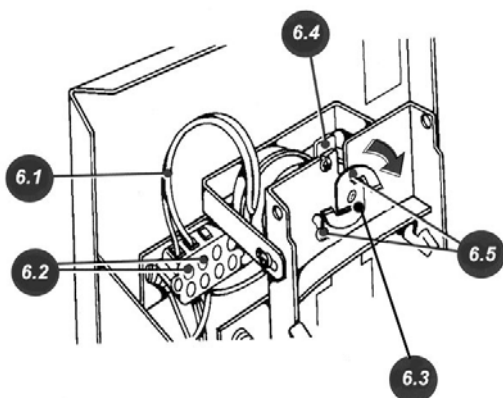

Figure 6
3. **Figure 6** shows a close-up of cam block terminal.